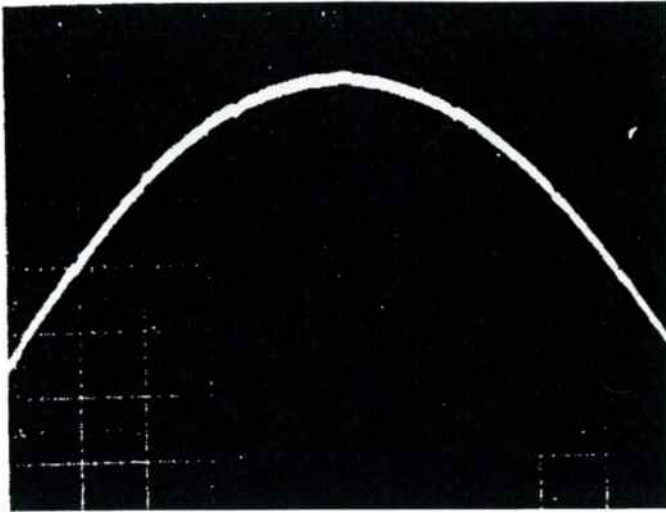

Figure 5-6
- g. Perform A/D Phasing check at 50 kW. Refer to Figure 5-6.